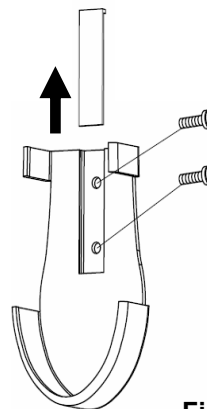

Fig. 14a
2. Remove the screw cover and install the holder using the 2 screws and re-install the screw cover. (Fig.14a).